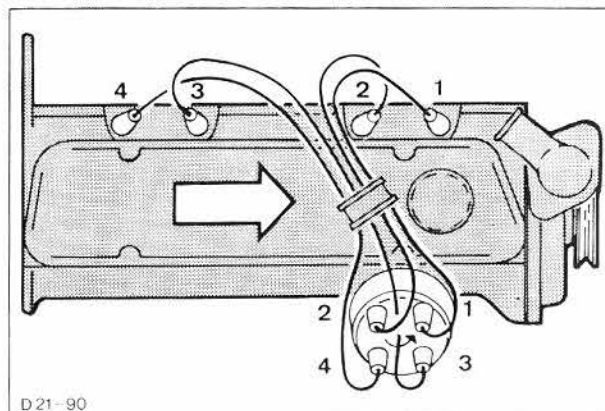

Fig. 93. Plug leads (Firing order).
9. Connect HT leads to spark plugs, refit air cleaner and connect earth strap to battery, Fig. 93.